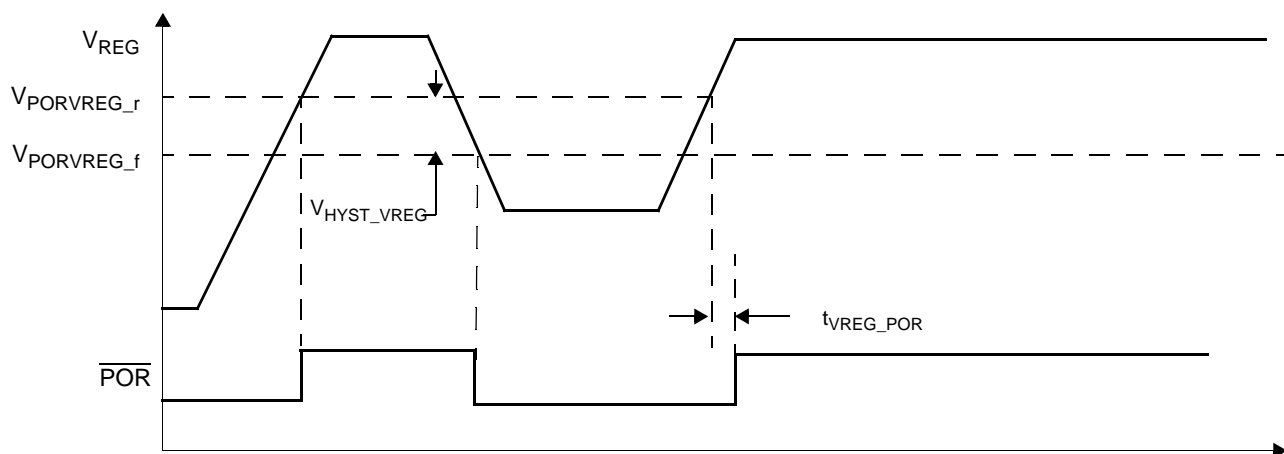

Figure 6.  $V_{REG}$  Under-Voltage Detection
| 84  | $V_{REG}$ Under-Voltage Reset Delay (See Figure 6)$V_{REG} < V_{PORVREG\_f}$ to POR assertion   | $t_{VREG\_POR}$      | —             | —                 | 5                 | $\mu$ s                 | (3) |